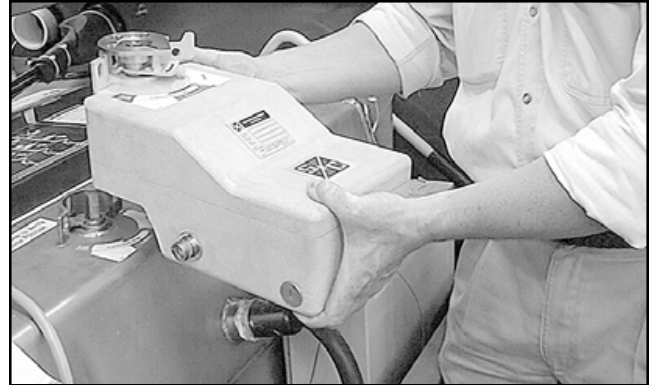

Figure 36. Placing the motor operator over the operating shaft on the gear.
- STEP 1.** Place each motor operator over the operating shaft on the gear. See Figure 36.